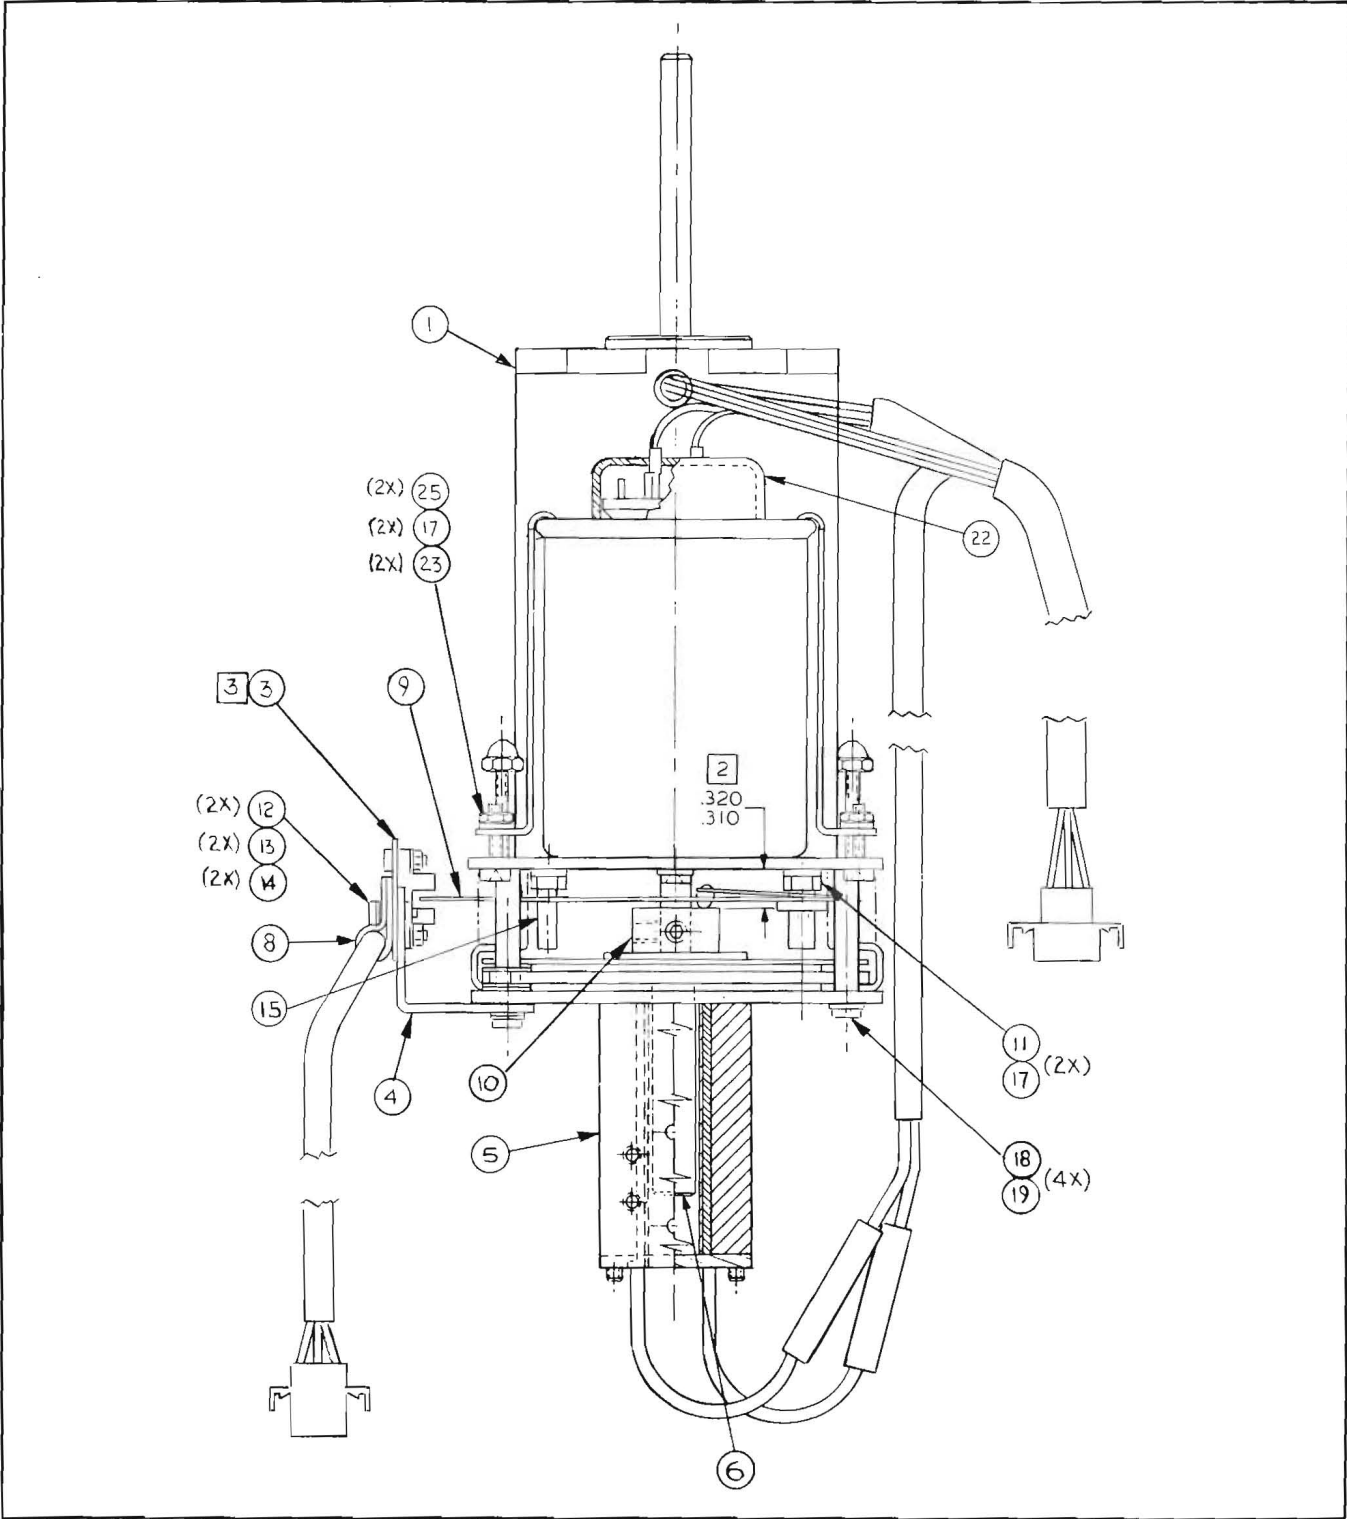

Figure 7-4. Motion-Direction Sense Adjustment
- E. The erase, record, and playback head assemblies can be removed from the head bridge mounting plate (3) by unscrewing the 10-32 socket-head cap screws (7) and unplugging the head connectors. The individual stacks can be removed from their respective mounting blocks by loosening the 6-32 azimuth screws (5). The entire head/bridge assembly can be removed for inspection by unplugging the head cables and removing the three 8-32 flat-head screws (2) that hold the head bridge mounting plate. No realignment is required upon reinstallation when neither the azimuth nor zenith adjustment has been changed.
7.4 Motion-Direction Sense Adjustment (Fig. 7-4)
- A. Loosen two screws (14) and adjust motion direction sensor PWA so that motion direction sensor arm assembly (9) is centered in the slot of the photon coupler on the PWA.